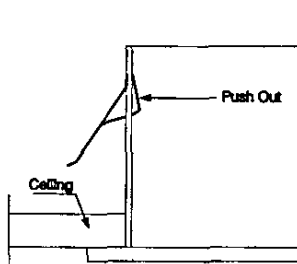

Fig. 4
7. Slide the legs of the mounting spring clips into the ceiling cut-out and push the luminaire up into the aperture. Lock down securing clips on larger fittings, (see Fig.4) drag down clip with finger to secure in position. Ensure that luminaire is securely located. (see Fig.5)